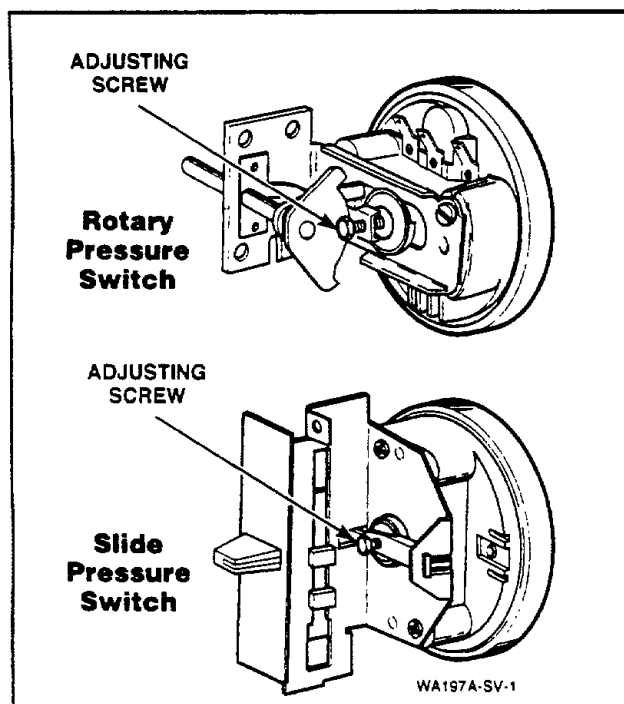

Figure 69
39. PRESSURE SWITCH (Refer to Figure 69)